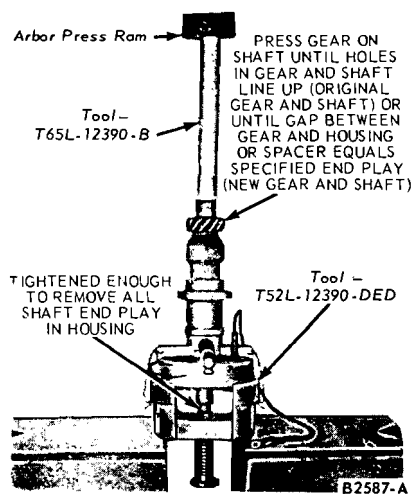

FIG. 9—Gear Installation
12. Place the spacer on the gear end of the shaft. Press the gear on the shaft (Fig. 9). If a new shaft is being installed, drill the shaft with a 1/8-inch drill using the pin hole in the gear shoulder as a guide.